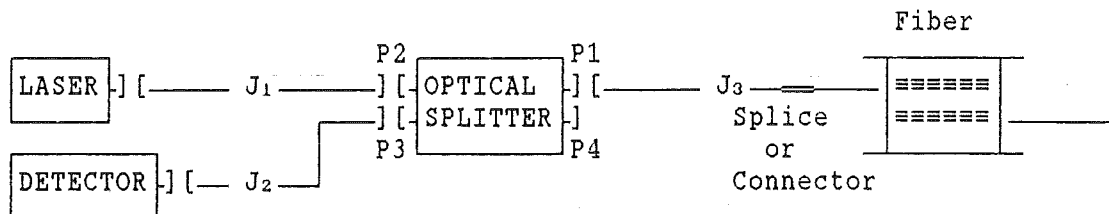
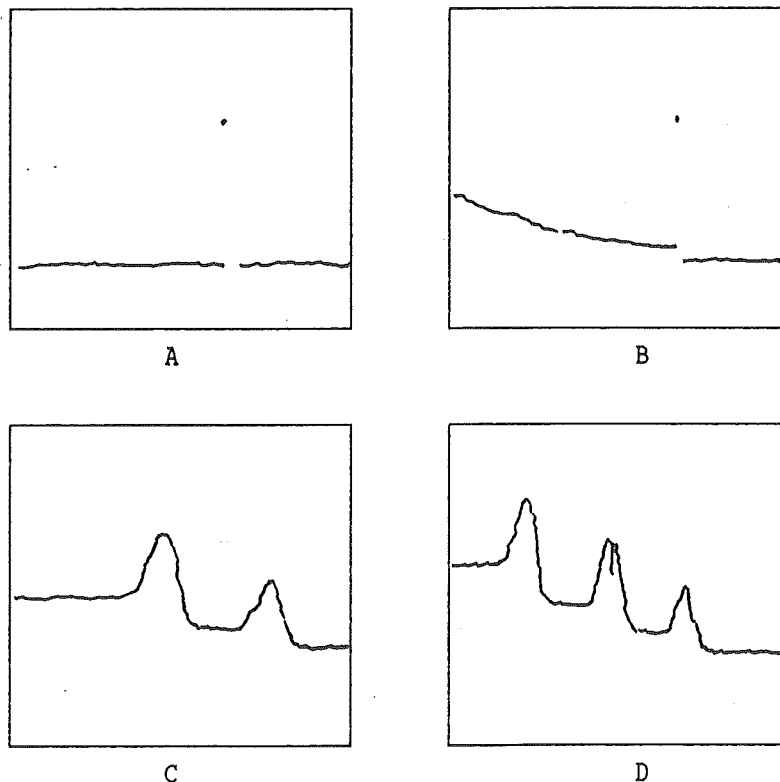

Figure 15-A
Figure 18
** Set up the optical system as shown below in Figure 15-A. For this measurement a reel of fiber is required. The reel can be connected via a mechanical splice, (wet or dry) or via an optical connector. If a fusion splice is used it may be necessary to take the reference before splicing or else to cut the splice later.
** Set up as in Figure 15-A with a fiber length of 100 to 1000 meters then do the following;
Look for the "pulse" which will be a single dot. The display should look similar to Figure 18-A. Now review Section 14. SEARCH TECHNIQUE. Most of the explanations there, apply here as well. In particular the pulse can appear and disappear in a similar manner and for the same reason. Spend some time adjusting the various settings, then reset as above and continue.
** Tie a knot near the fiber end ($\frac{1}{2}$ m in) and slowly tighten while watching the Fresnel reflection from the end. When the Fresnel reflection has been reduced to the noise level, take 512 averages. Now the display should appear similar to Figure 18-B. Play with this loop, trying different averages and loop tightness.
** Untie the previous knot and re-tie 0.3 m in from the end. Repeat the above measurements. The results should look like Figure 18-C. Tie a second knot 0.6 meters in from the end. These can be adjusted to look like Figure 18-D.
** Set up as shown in Figure 15-A. Tie a knot in the fiber about ½ meter from the end. Adjust this to look like Figure 18-C. Fix the tie with tape or some other means.